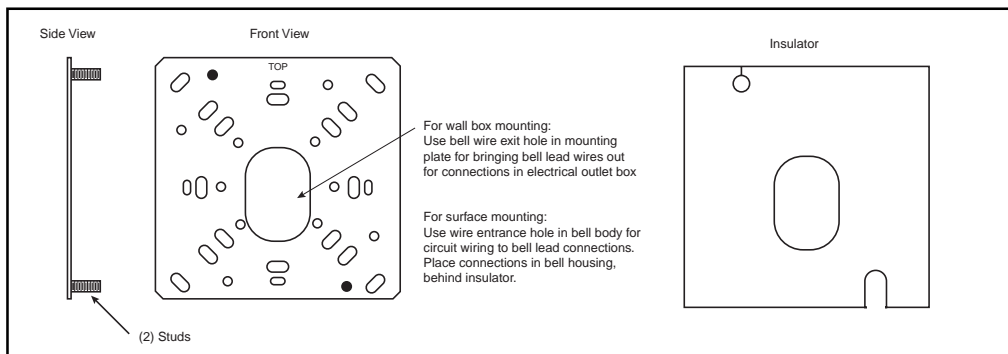

Figure 2. Metal Mounting Plate and Insulator
2. Pull bell lead wires through hole in insulator (Figure 2).
5. Mount insulator and bell body onto studs of metal mounting plate (Figures 2 and 3). Secure using two lockwashers and two nuts (supplied).
3. Ensure that the mounting plate is aligned with the word "TOP" at the top and facing out and secure metal mounting plate to surface using screws appropriate for the mounting surface (not supplied). Place insulator over studs on mounting plate (Figure 2).